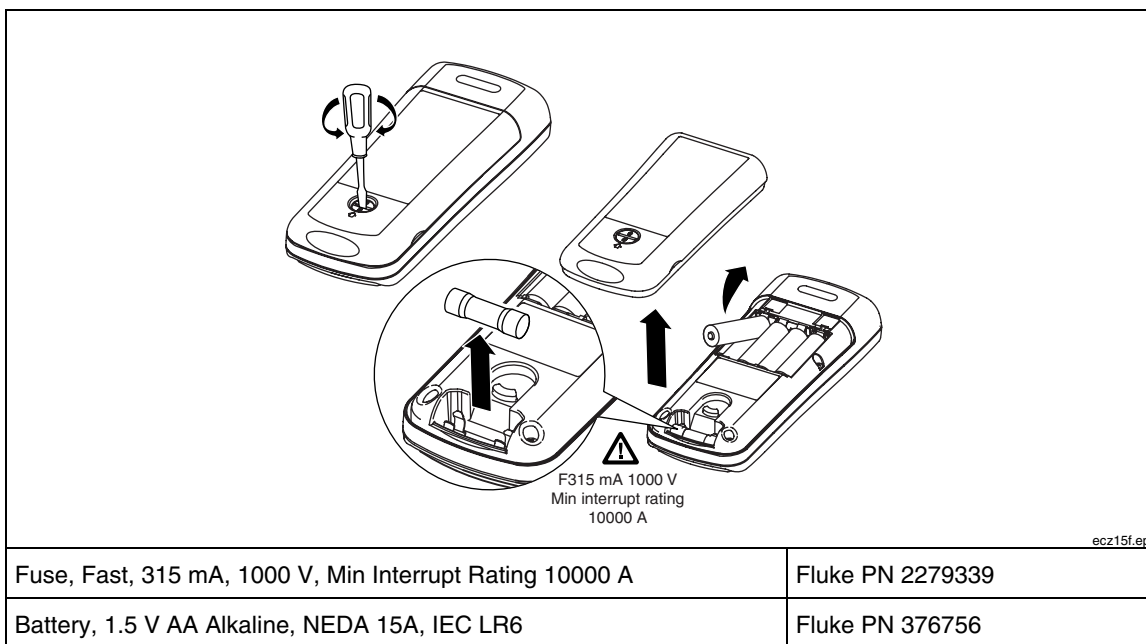

Figure 1. Replacing the Fuse and Batteries
Replace the fuse and batteries as shown in Figure 1. Follow the steps below to replace the batteries.
4. Remove and replace the batteries and fuse as shown in Figure 1.
4. If necessary, remove and replace the batteries and fuse as shown in Figure 1.